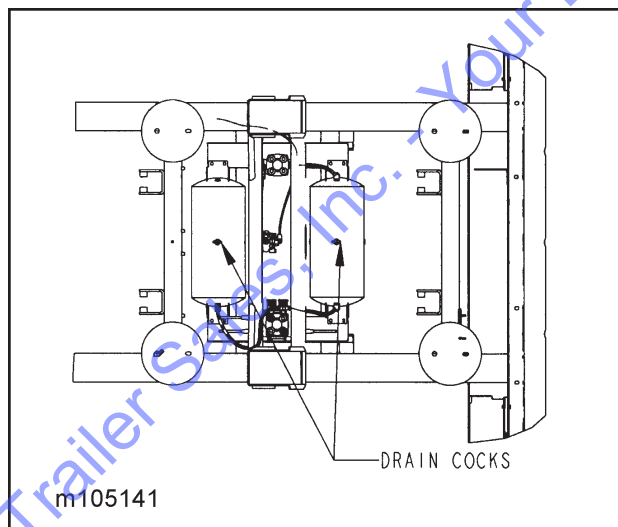

Figure 4-15 Drain Cock Locations
- Drain air reservoir daily. A drain cock on the bottom of each air reservoir vents the tank to drain collected water and oil. If held open, air pressure in the tanks is relieved, causing the emergency or parking brakes to be applied (See Figure 4-15).